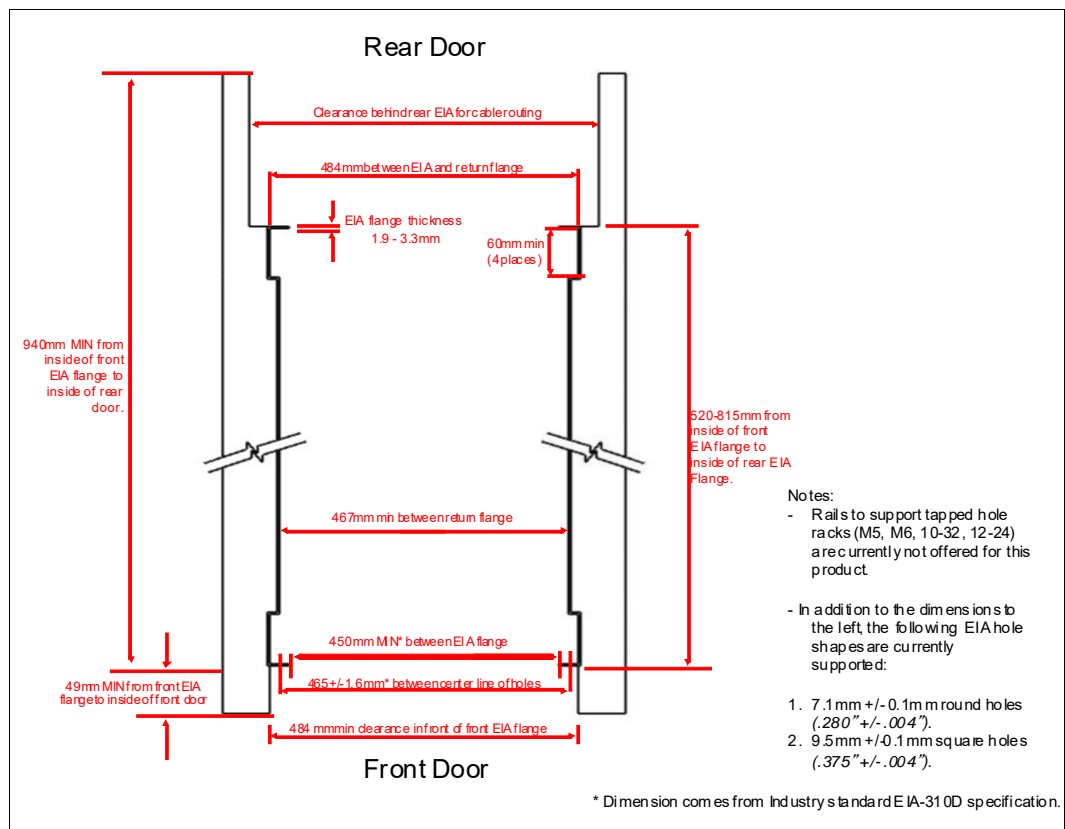

Figure 1-16 Top view of the rack specification dimensions (not specific to IBM)
- ▶ The front rack opening must be 451 mm wide  $\pm 0.75$  mm (17.75 in.  $\pm 0.03$  in.), and the rail-mounting holes must be 465 mm  $\pm 0.8$  mm (18.3 in.  $\pm 0.03$  in.) apart on-center (that is, the horizontal width between the vertical columns of holes on the two front-mounting flanges and on the two rear-mounting flanges). Figure 1-16 is a top view showing the specification dimensions.